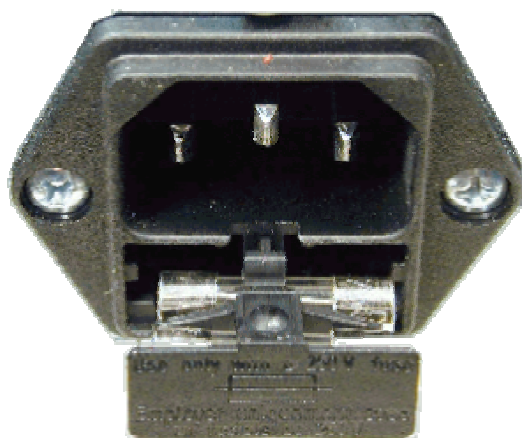

Figure 9 Changing the mains fuse
2. Open the fuse drawer in the mains connector (see Figure 9) with a screwdriver.